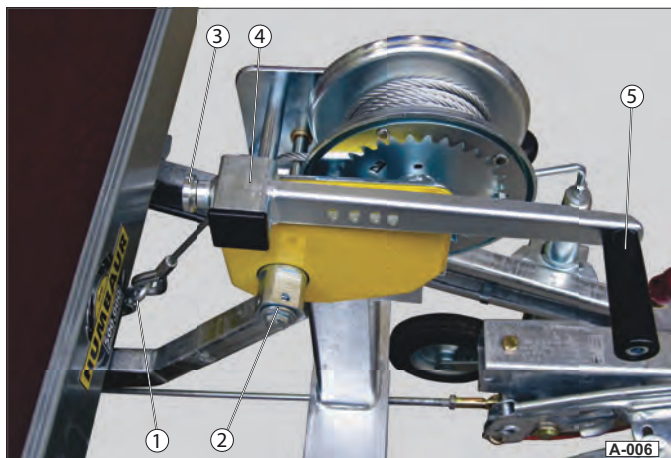

**Fig. 5** Fastening stand bracket
- ▶ Insert the hexagon screw with the spring washer (Fig. 5 /1) into the drill holes from above.
- ▶ Hold the threaded plate (Fig. 5 /2) against it from below.